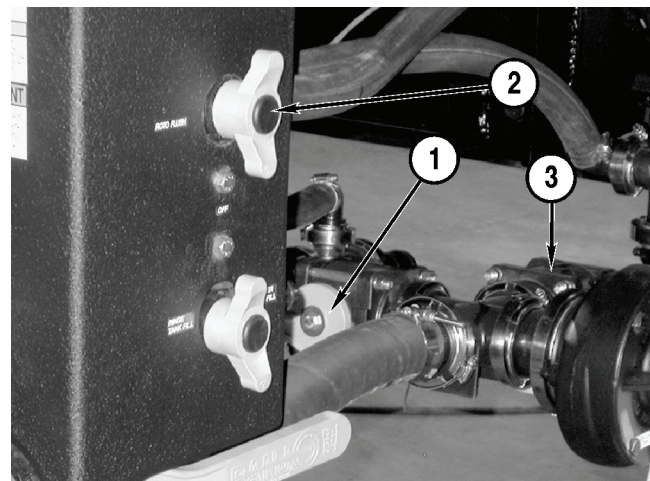

Figure 4-28
5. Close the rinse tank valve (Figure 4-28, 1).
6. Set the flush/agitation knob (Figure 4-28, 2), shown in the CLOSED position, to AGITATION.
7. Open the product valve (Figure 4-28, 3).